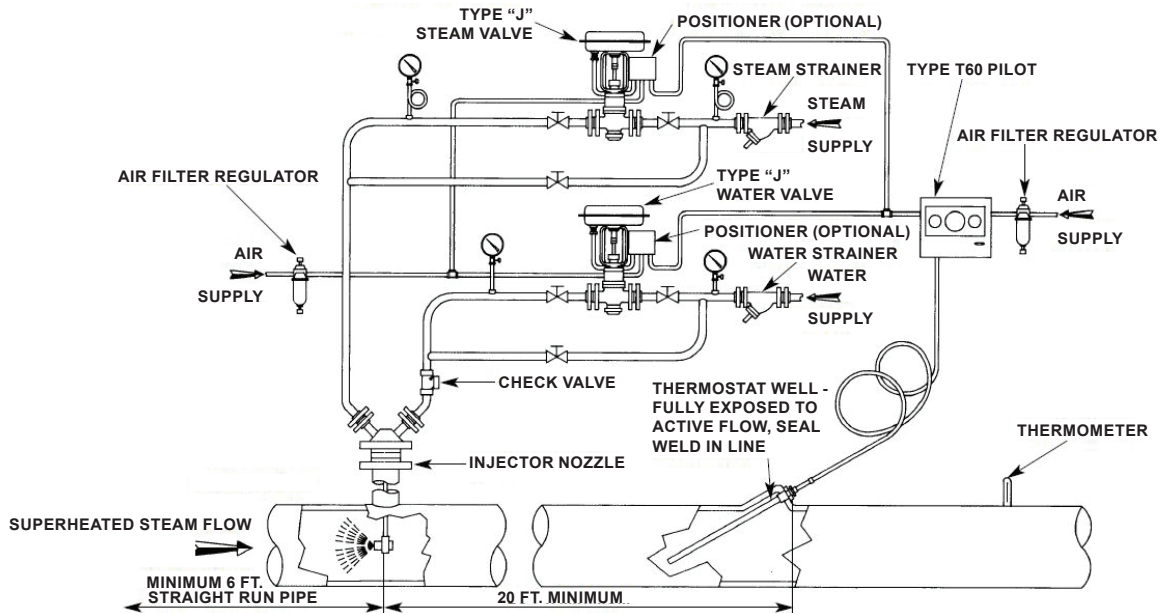

Figure 2. Air-Operated, Steam-Atomizing Desuperheater Station Installation
2. Install the control valves and strainers as shown with the arrows pointing in the direction of flow. See Figure 2.
8. Install the required pressure gages and thermometer as shown in Figure 2.